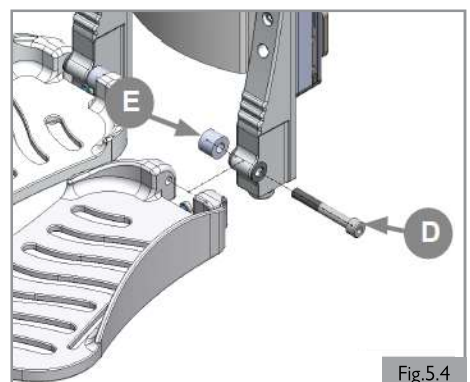

Fig.5.4
1. Remove bolt (D) with an Allen key. (Fig. 5.4)
2. Move spacer (E) from inside of footrest to the outer side.